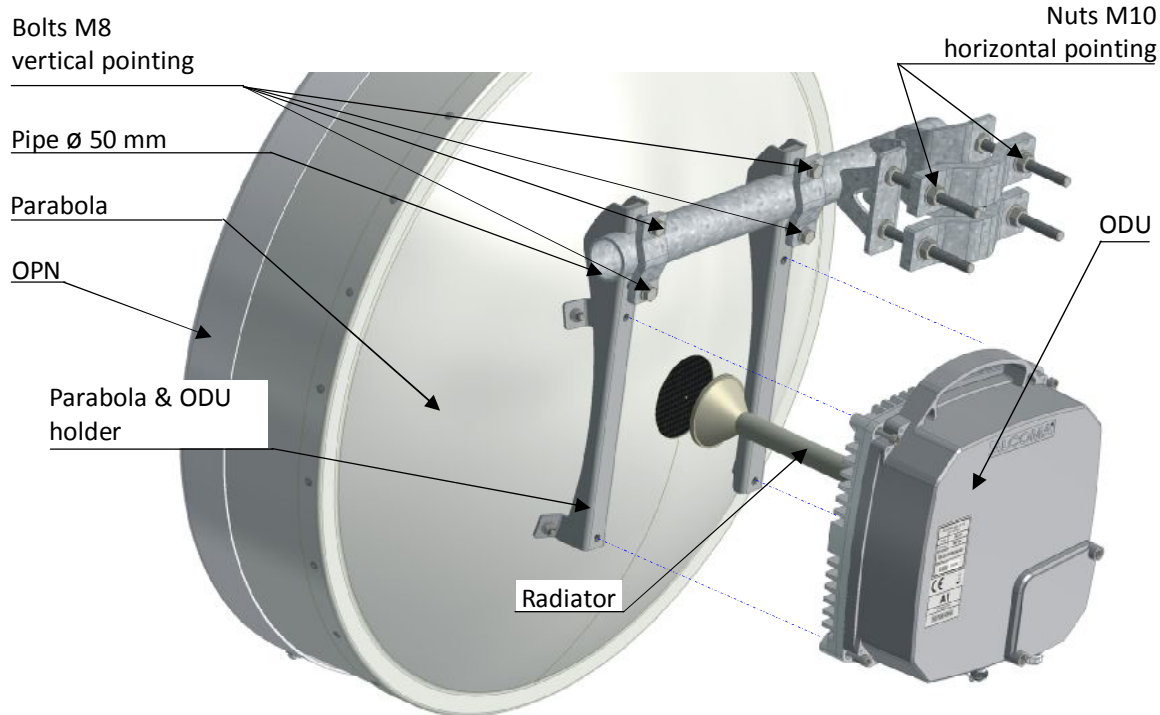

Figure 11 The AL2-xx/ME antenna installation
- **Gradually tighten the bolts** that hold the parabola and ODU to the profile (figure 11)